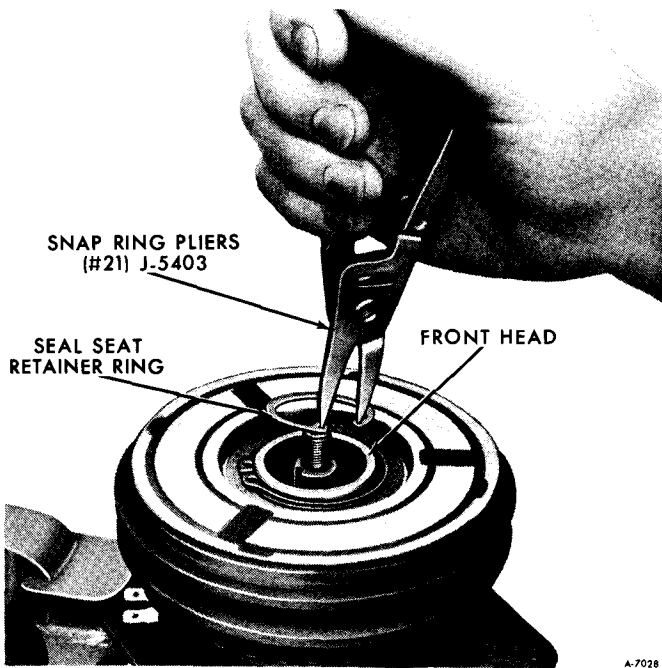
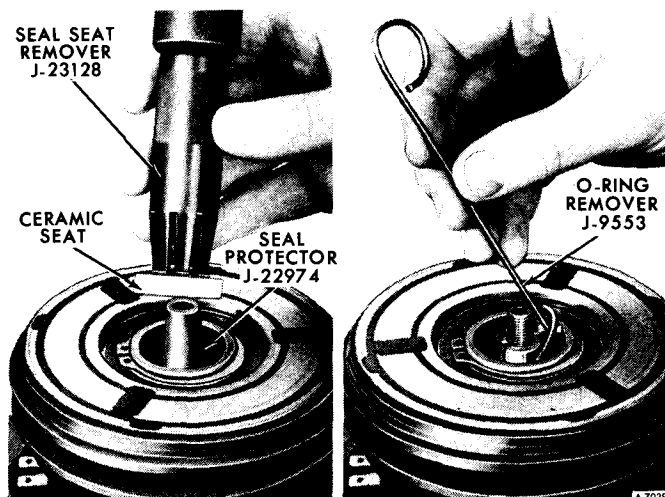

Figure 85—Replacing Shaft Seal Seat Retaining Ring
Figure 86—Removing Shaft Seal Seat And O-Ring
2. Pry out the sleeve retainer and remove the absorbent sleeve. Remove the shaft seal seat retaining ring, using snap ring pliers J-5403 (#21) (figure 85).
4. Place seal protector J-22974 over the end of the shaft to prevent chipping the ceramic seat. Fully engage the knurled tangs of seal seat remover-installer J-23128 into the recessed portion of the seal seat by turning the handle clockwise. Lift the seat from the compressor with a rotary motion (figure 86).
5. With seal protector J-22974 still over the end of the shaft, engage the tabs on the seal assembly with the tangs on seal installer J-9392 by twisting the tool clockwise, while pressing the tool down. Then lift the seal assembly out (figure 86).
4. Coat the seal face of the new seal seat with clean 525 viscosity refrigerant oil. Mount the seal seat on seal seat remover-installer J-23128 and install it in the compressor neck, taking care not to dislodge the seal seat O-ring and being sure the seal seat makes a good seal with the O-ring. Remove seal protector J-22974 from the end of the shaft (figure 86).
5. Install the new seal seat retainer ring with its flat side against the seal seat, using snap-ring pliers J-5403 (#21) (figure 85). Use the sleeve from seal seat remover-installer J-23128 (figure 86) to press in on the seal seat retainer ring so that it snaps into its groove.